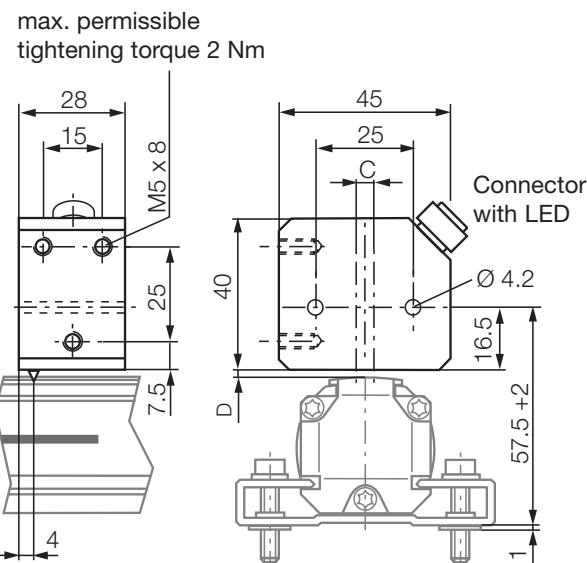

Fig. 3-5: BTL5-P-4500-1 electromagnet (24 V/100mA)
*The stroke range is offset 4 mm towards the BTL connector/cable (→ Fig. 3-5).*